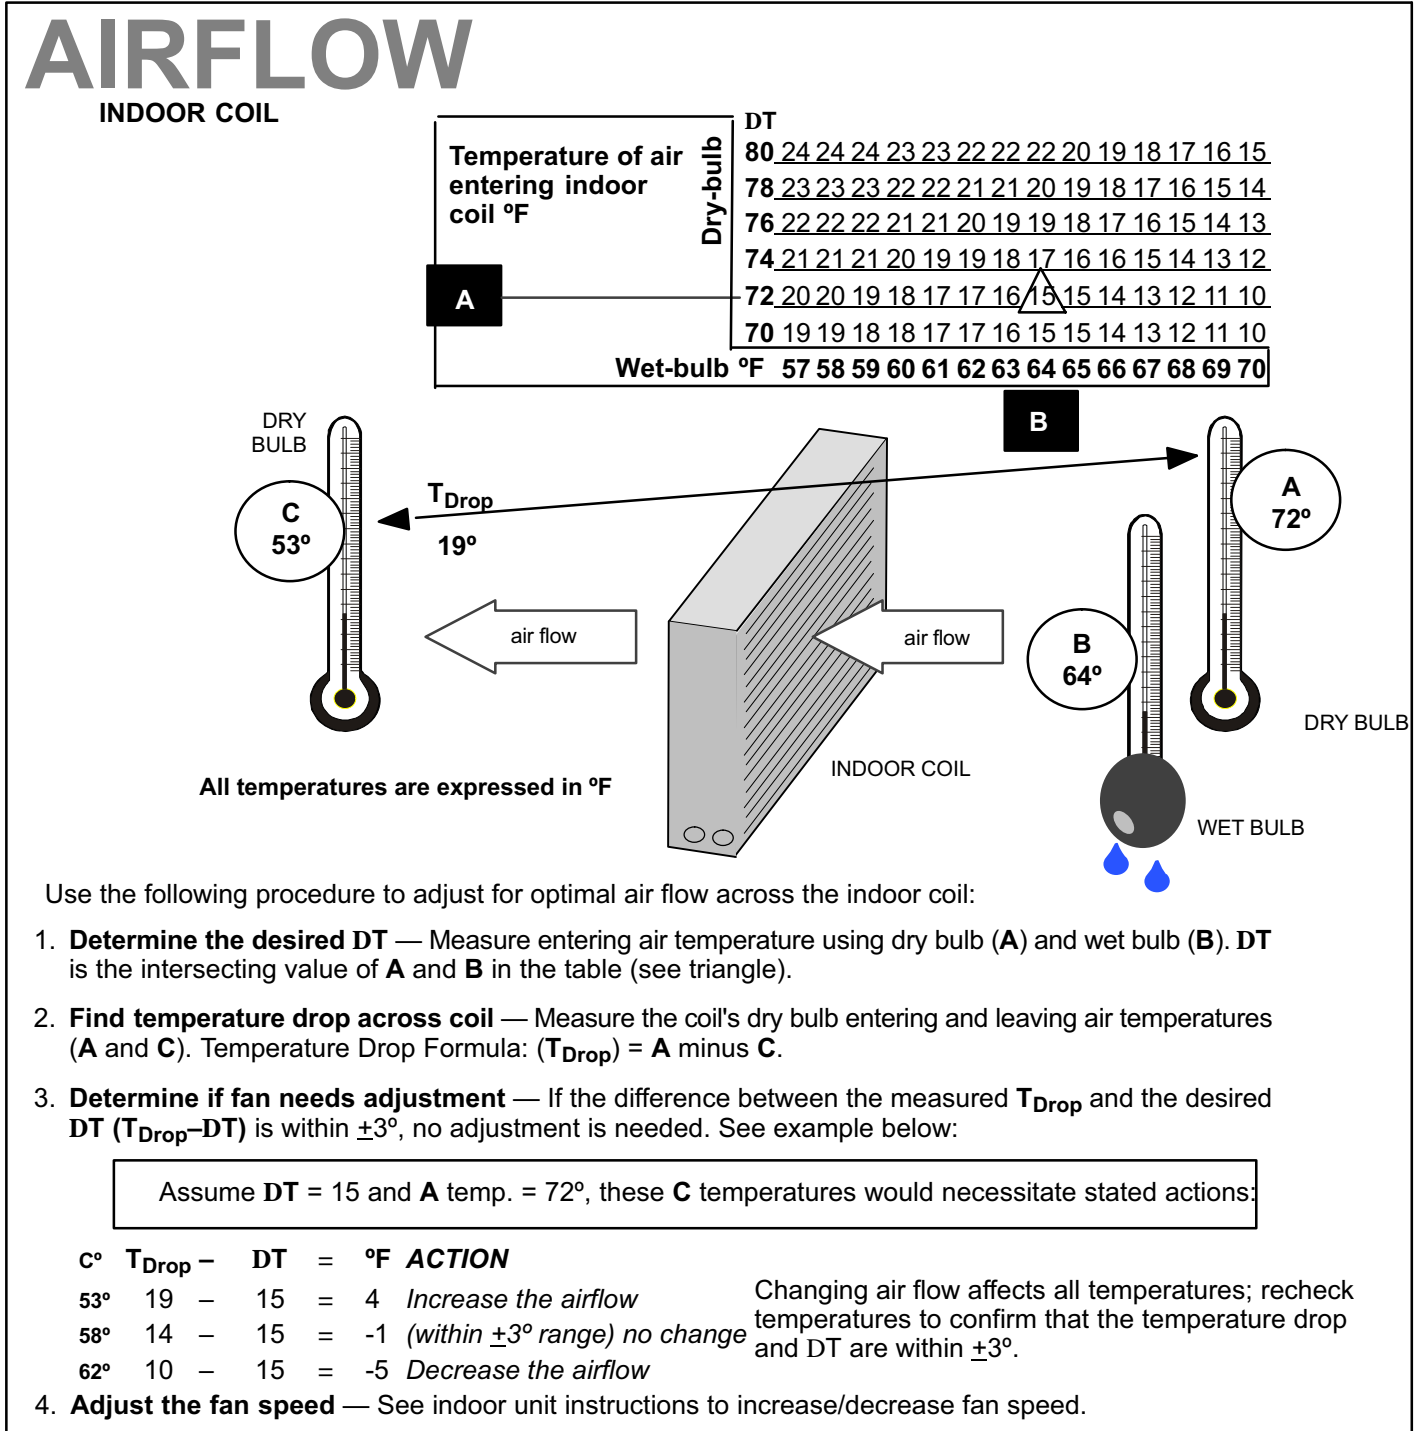

Figure 15. Checking Indoor Airflow over Evaporator Coil using Delta-T Chart
This system uses HFC-410A refrigerant which operates at much higher pressures than HCFC-22. The pre-installed liquid line filter drier is approved for use with HFC-410A only. Do not replace it with components designed for use with HCFC-22. This unit is NOT approved for use with coils which use capillary tubes or fixed orifices as a refrigerant metering device. Check airflow using the Delta-T (DT) process using the illustration in figure 15.